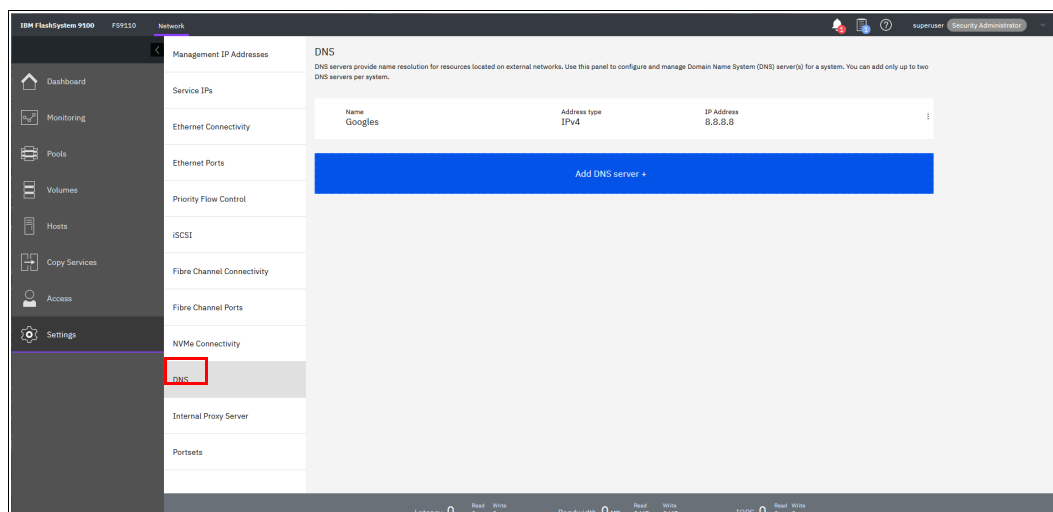

Figure 4-87 DNS information
1. In the left pane, click DNS and select **Add DNS server**. Enter the IP address and Name of each DNS server. IBM Spectrum Virtualize supports up two DNS servers for IPv4 or IPv6 (see Figure 4-87).